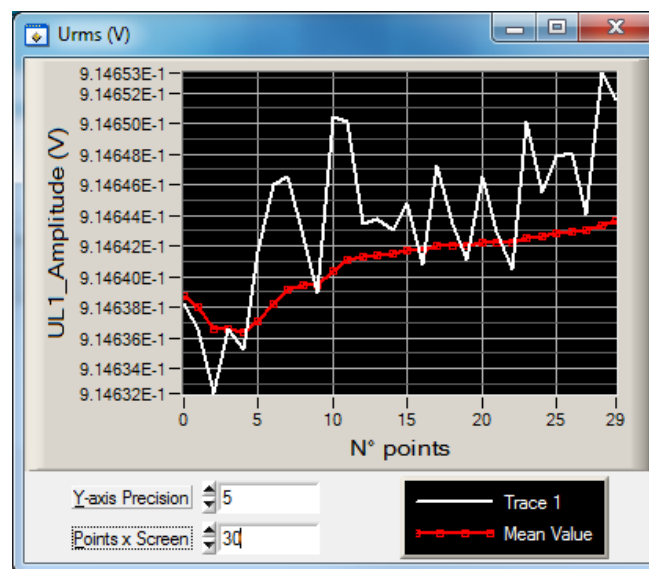

Figure A.18: Selected Measured value graph.
- **Harmonic analyzer ON/OFF:** this button allows according to the parameters set to “**Harmonic Number**” and “**Window Type**” to carry out an analysis on the frequency domain on the sampled waveforms. When enabled it shows on the right-side of the panel the harmonic graphs plotted against frequency. The first graph plotted refers to **Voltage harmonic amplitude (V)** and the second one to **Current harmonic amplitude (A)**; both start from the characteristic frequency of 53 Hz until the selected Harmonic parameter;
- **Show Graph:** these series of buttons next to each parameter in the grid invoke a new window displaying the corresponding measured value over time as shown in Figure A.18.